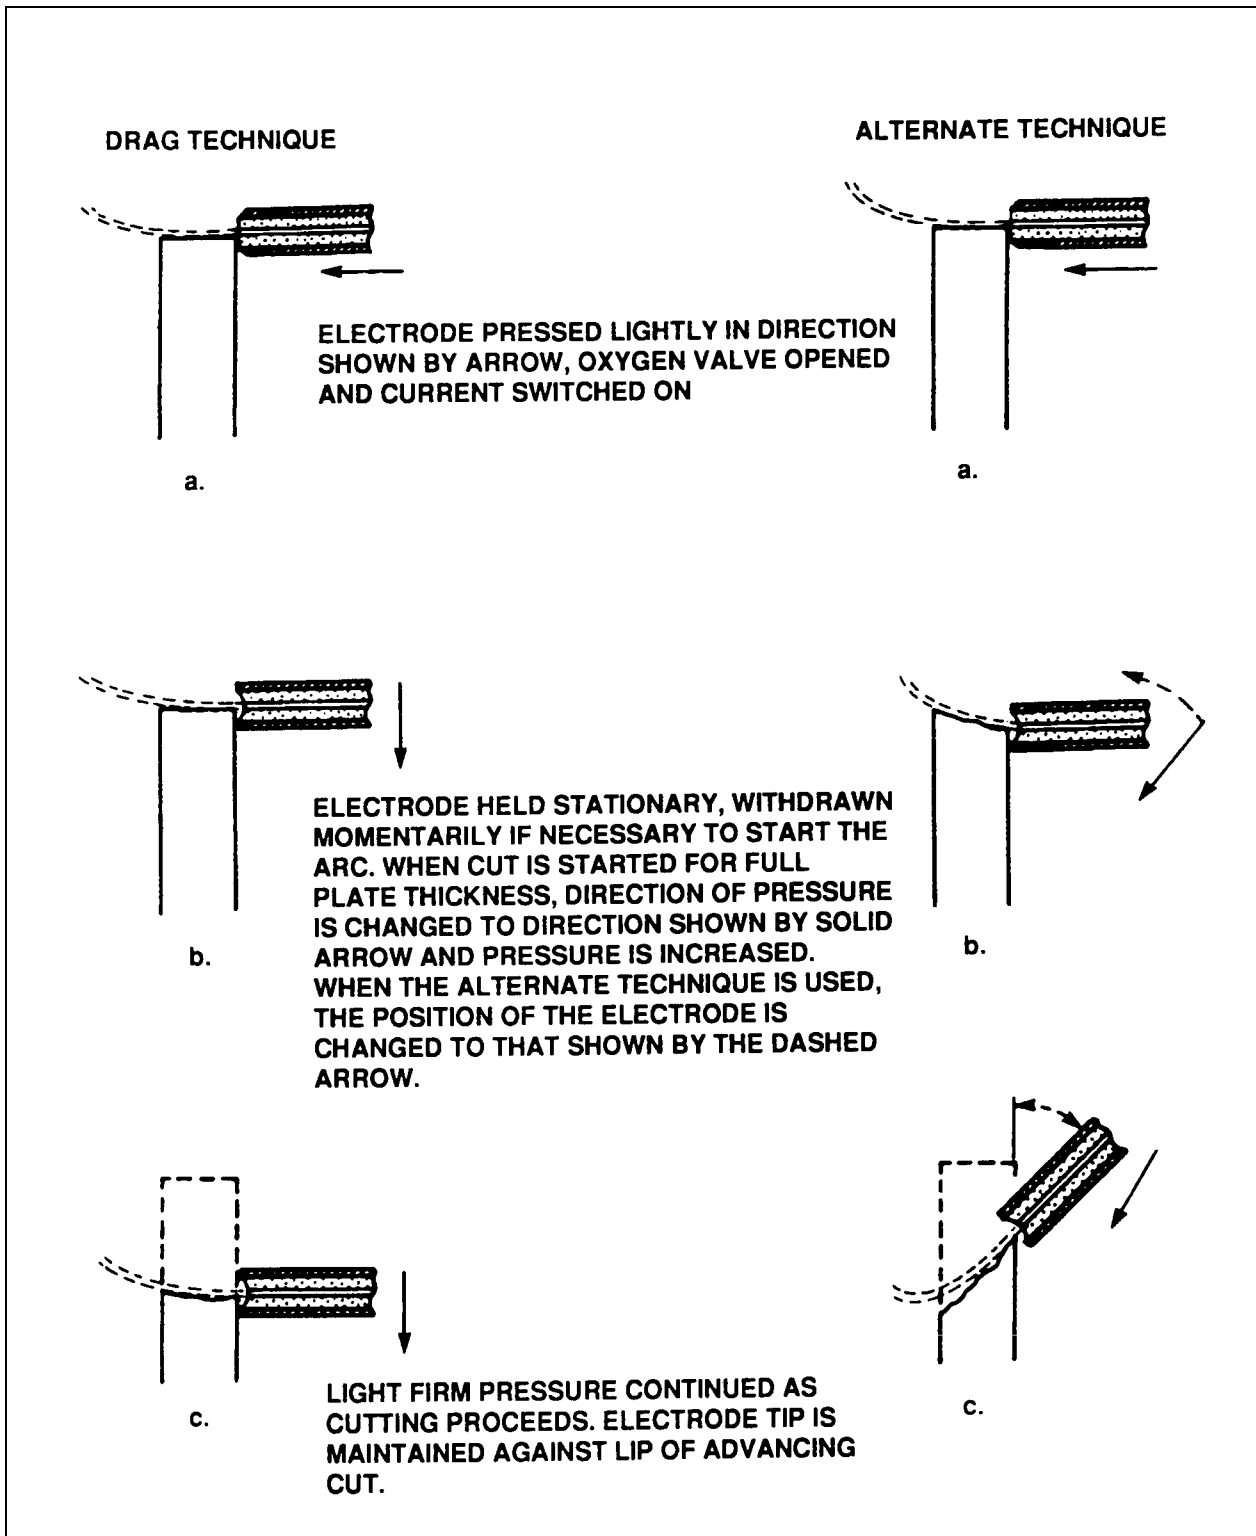

Figure 2-4. Technique for Cutting Steel Less Than 1/4 Inch with Steel-Tubular Electrodes.
- a. Instead of maintaining the electrode tip in the cut and pressing against the lip of the advancing cut, the tip should barely touch the plate surface as it advances along the line of cut. (See the technique illustrated in Figure 2-4.)
- b. When visibility is poor, an alternate technique can be used. Hold the electrode perpendicular to the plate until the cut is started through the full thickness. Then, angled at approximately 45° to the plate and in the direction of the cut, proceed as if cutting a thicker plate. The effective thickness of the plate is increased and normal pressure can be applied to the electrode. (See alternate technique, Figure 2-4.)